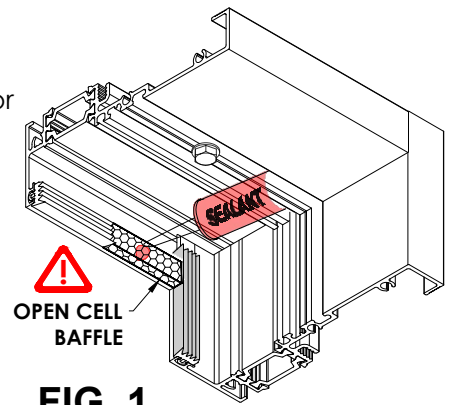

FIG. 1
- a. **CRITICAL:** Install two OPEN CELL Baffles from both sides at the head of each opening. Use dab of sealant to hold it in place. **See FIG 1.**
- b. Install glazing gasket #1342103, ensure gasket is not wavy. Ensure exterior gasket is not wavy. **See FIG 1.**
- c. Apply a dab of sealant to the glazing gasket joint. **See FIG 1.**